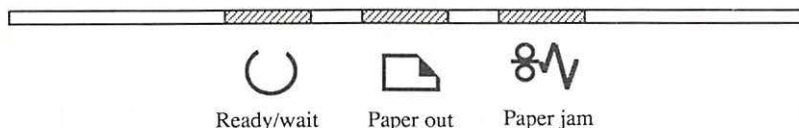

FIGURE 1-10: DISPLAY PANEL LEDs
2. Display panel LEDs (Figure 1-10):